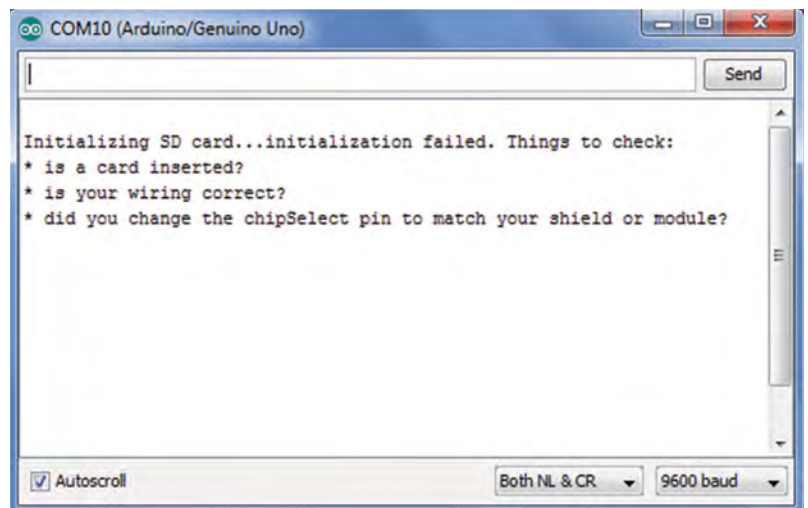

**Fig.5.6. Selecting the CardInfo example program**
The best way to test an SD card module or shield and (also to get information on the SD card that you're using) is to use the CardInfo program supplied with the examples in the Arduino IDE. To locate this program you need to select the File option from the main menu and then Examples followed by SD from within the section marked 'Examples from libraries'. Finally, you can select CardInfo at the top of the list, as shown in Fig.5.6 and upload it to your Arduino. At this point you might need to modify the example program so that the correct pin number is used for the card's chip select (CS) signal, as described above.